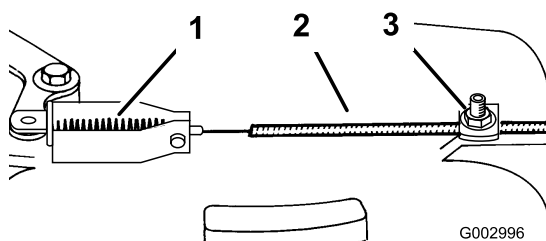

Figure 31
3. Loosen the cable clamp screw until the brake cable conduit slides (Figure 31).